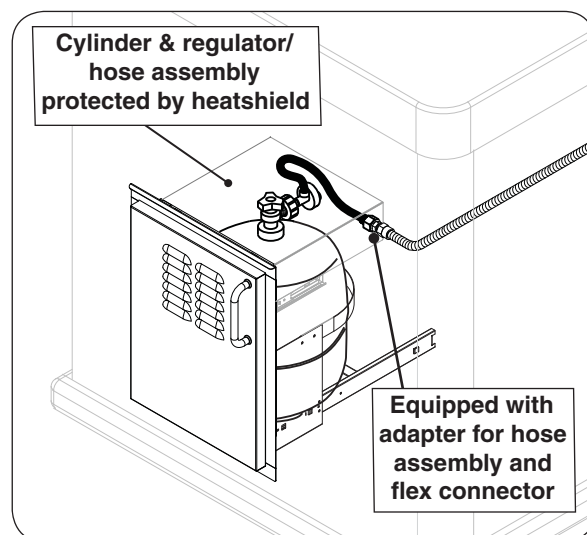

Fig. 11-3 Optional AOG door w/tank tray
- **AOG offers a propane cylinder door with tank tray to meet the cylinder install requirements. See Fig. 11-3.**